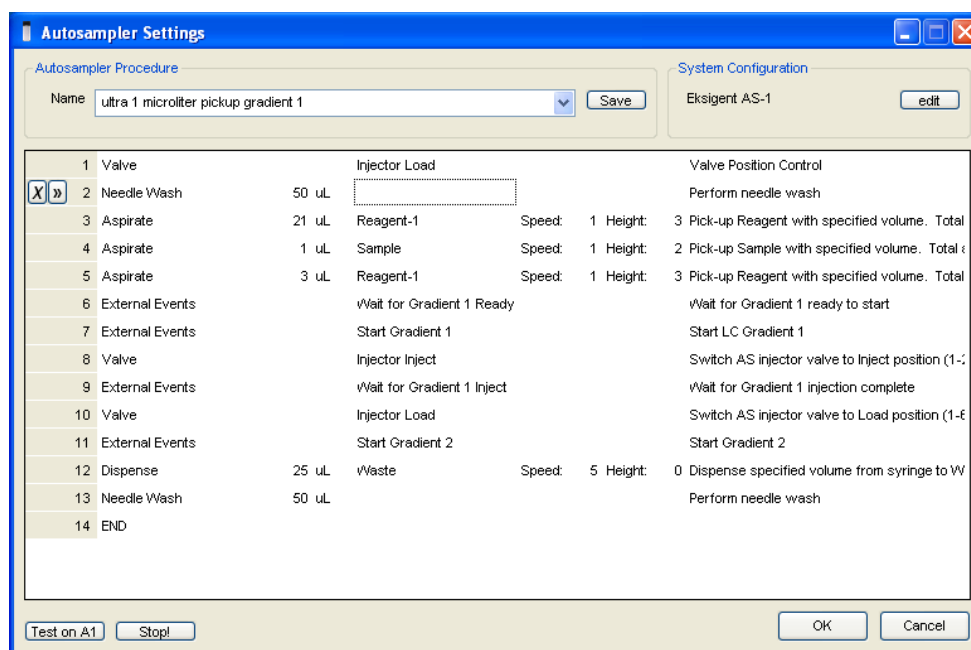

Figure 4-8 Autosampler Settings Dialog
- Click **Autosampler Methods** to display the **Autosampler Settings** dialog (Figure 4-8).